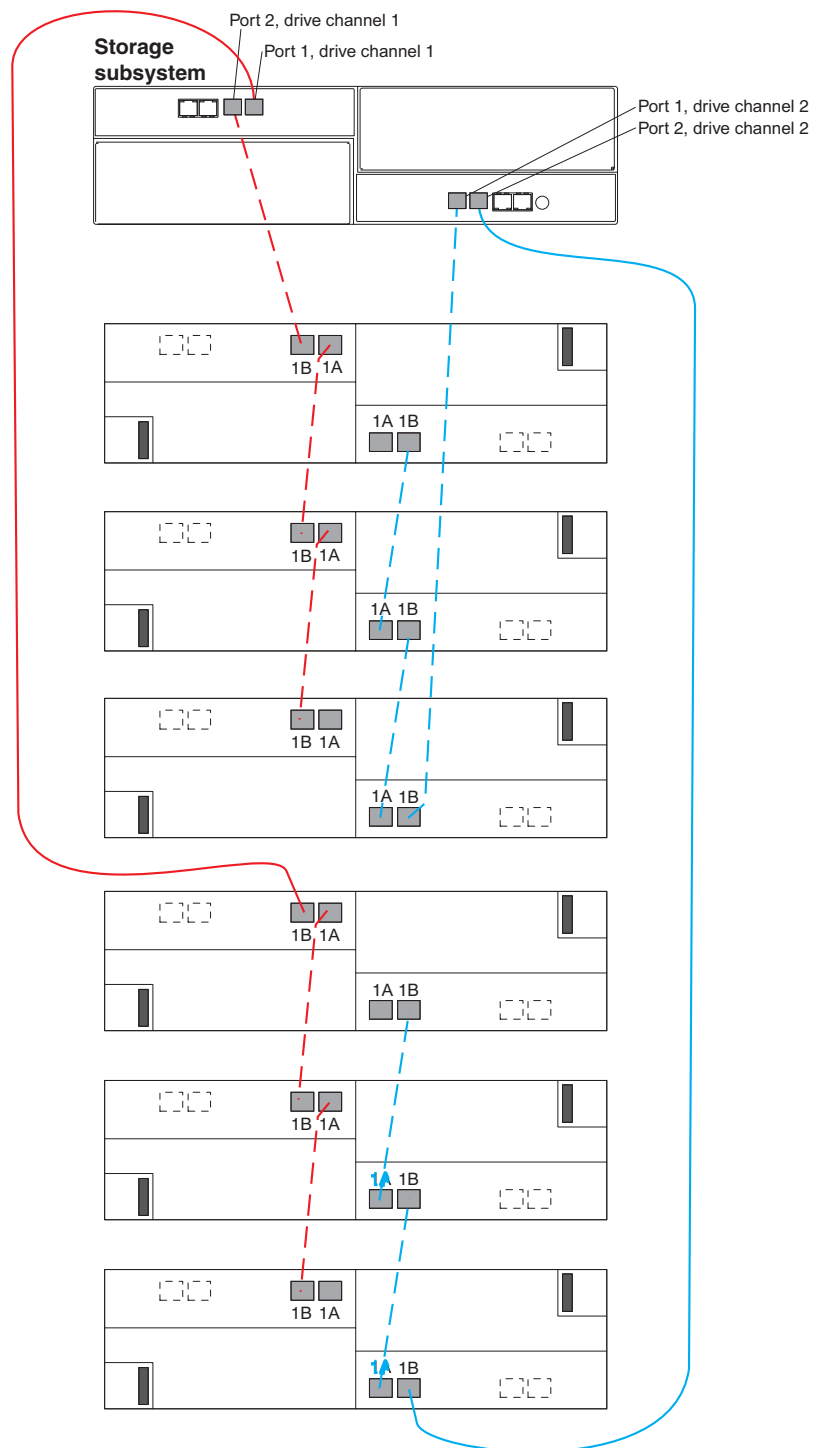

Figure 41. Cabling for one DS3950 and up to six storage expansion enclosures
If you are cabling one DS3950 storage subsystem and up to six storage expansion enclosures, Figure 41 shows the correct cabling topology.
7. When connecting six storage expansion enclosures to a DS3950, use all ports in both drive channels. See Figure 41 on page 64 for the cabling topology.